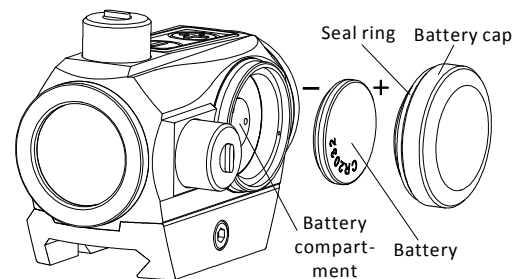

Fig 2 Battery Installation
- Please see the Fig 2 for battery installation and replacement:
- Insert the battery into the battery compartment with the correct marked polarities "+", "-", See Fig2.